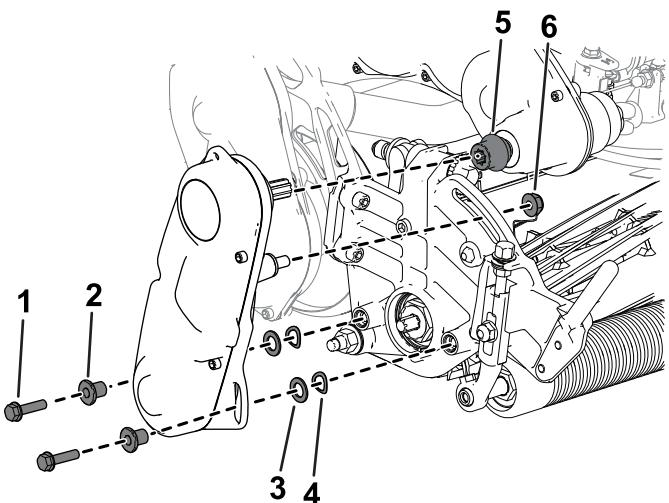

Figure 38
6. Use the previously removed socket-head screws, washers, and spacers to secure the reel-drive assembly to the cutting-unit side plate (Figure 38).
Ensure that the reel-drive-assembly driveshaft is installed to the transmission-driveshaft coupler (Figure 38).